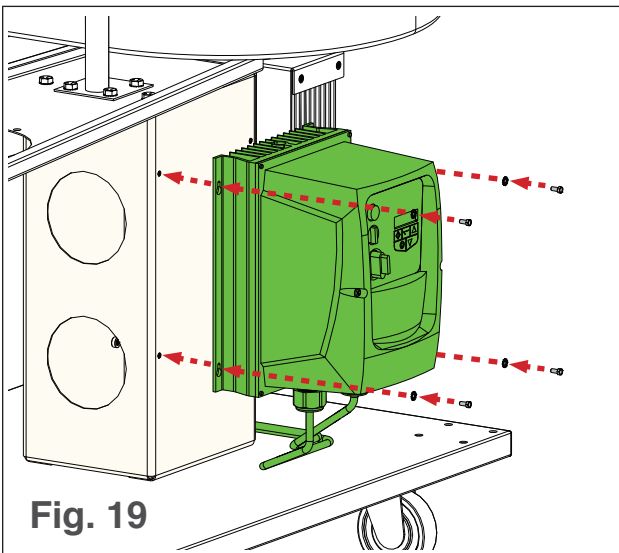

Fig. 19
2. Thread all four bolts through the star lock washers, then through the VFD and motor support (see Fig. 19).